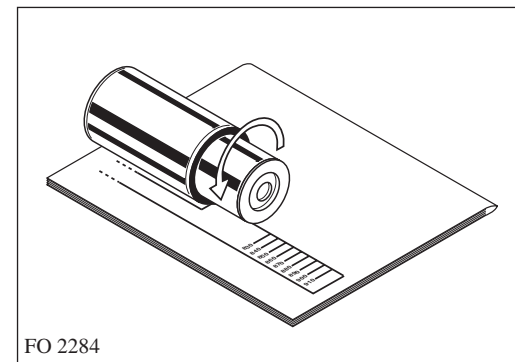

Fig. 2
3. Adjust the feet height. A height indicator is printed on the last page of this Instruction book (Fig. 2). Lean the foot on the page and make the foot match with the indicator, then unscrew the bottom part of the foot, until you obtain the required height. Repeat the same operation with the other feet.